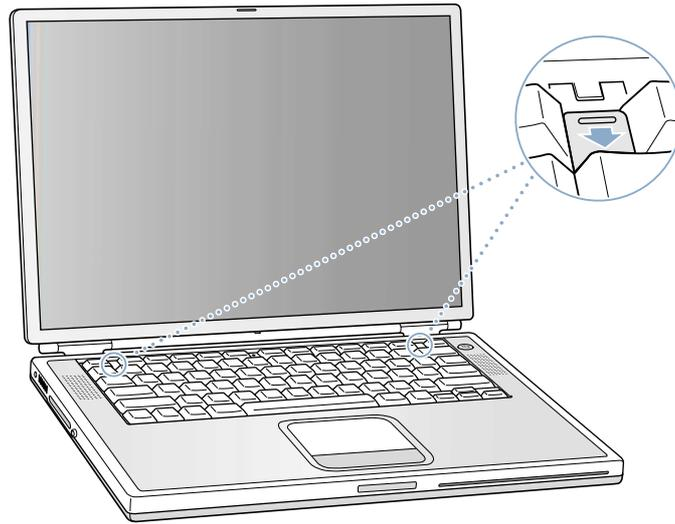

Figure 9
6. Pull down on the keyboard release tabs and then press down on the top portion of the keyboard (**Figure 9**).